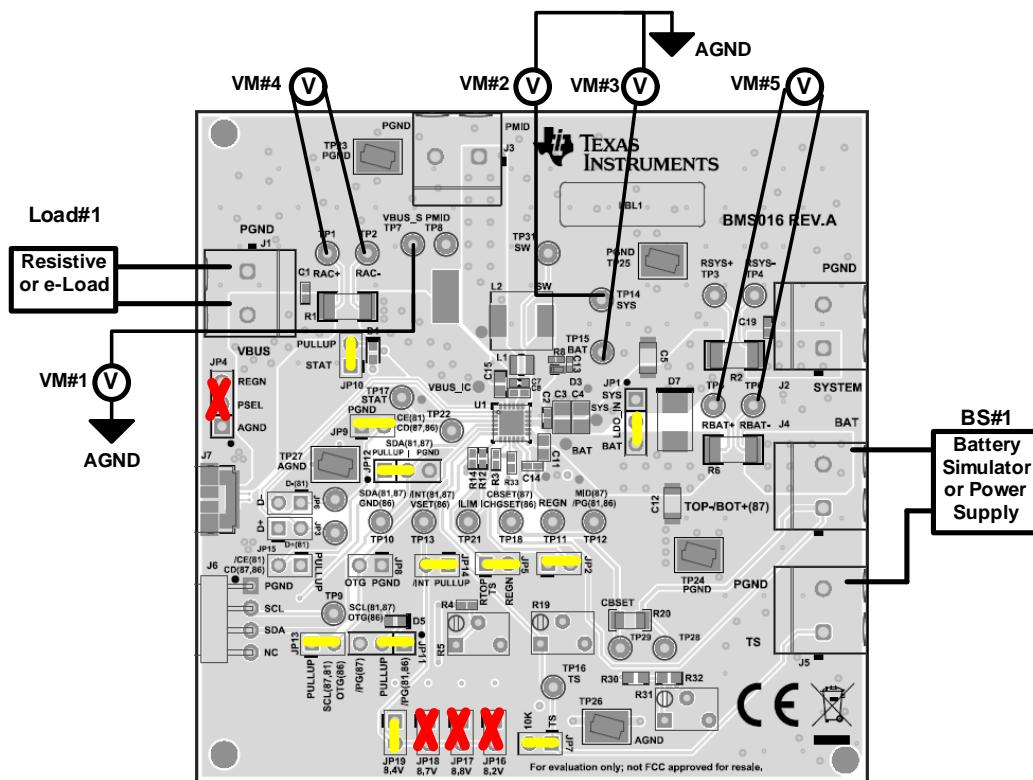

Figure 3. BQ25886 OTG Mode Test Setup
1. Ensure that the electronic load and battery simulator are turned off when connecting to the EVM. Figure 3 shows the test setup for when in OTG mode, including the jumper settings per Table 2.